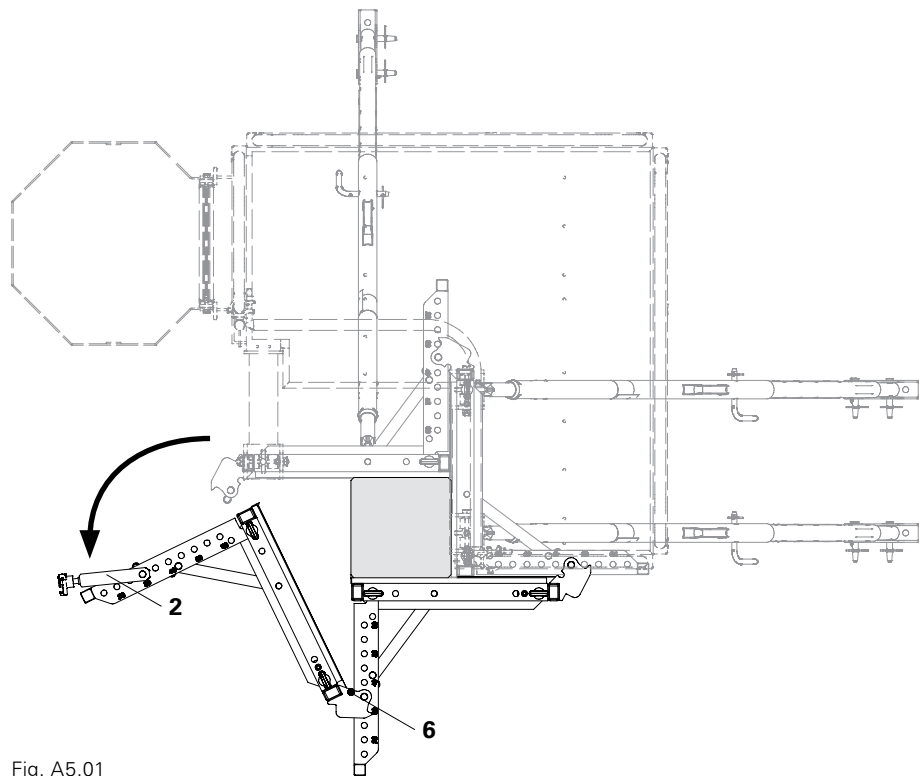

Fig. A5.01
1. Loosen QUATTRO QA Frame Spanner (2), remove locking pins  $\varnothing 20 \times 140$  (6), fold up element with the QUATTRO QA Frame Spanner and stabilise the opened position by means of the locking pins  $\varnothing 20 \times 140$  (6). (Fig. A5.01)